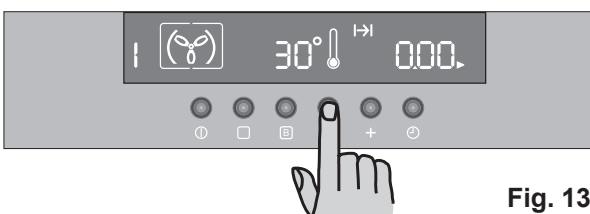

Fig. 13
- press button "-" to decrease the time until the display will show "0.00" (Fig. 13).